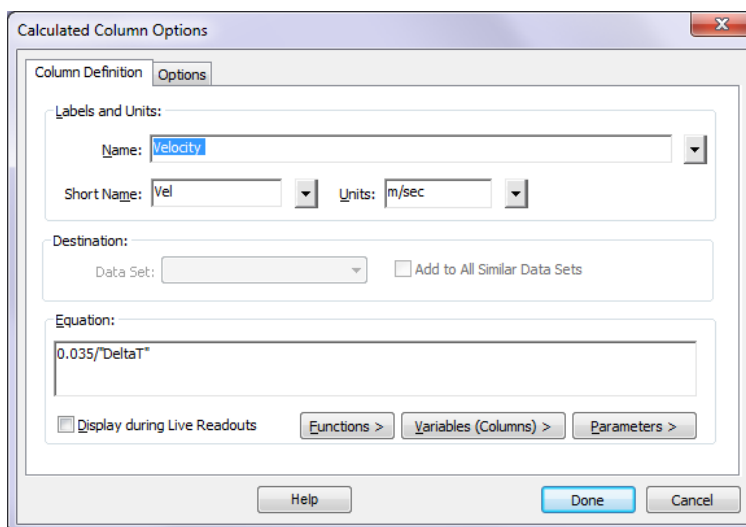

Figure 6-8. Column Options dialog box for “Velocity” column.
- In LoggerPro, double-click the top of the “Velocity” column to open the column options dialog box. Change the “0.035” in the Equation box to your measured value of Δx in meters. See Fig. 6-8.